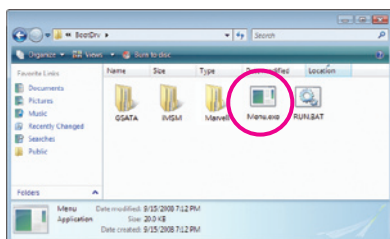
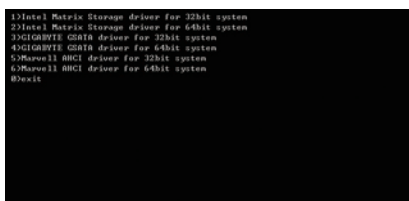

Figure 4
Figure 5
- 2: From your optical drive folder, double click the **Menu.exe** file in the **BootDrv** folder (Figure 4). A Command Prompt window will open similar to that in Figure 5.
- 3: Insert the blank formatted disk. Depending on the operating system to be installed, select the controller driver by pressing the corresponding letter from the menu and press <Enter>. For example, from the menu in Figure 5,